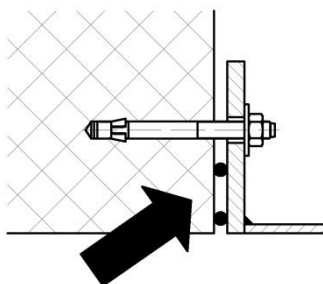

Fig. 4
- Prior to final fixation, pull frame slightly away from the wall in order to place two rows of sealant (according supplier's instructions) behind the frame (Fig. 4).